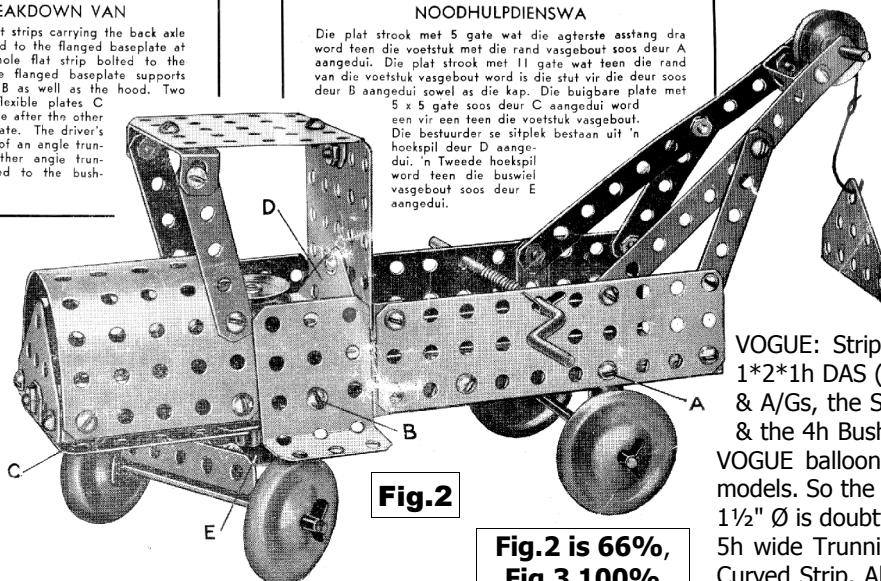

Fig.2
SKAAL to the BREAKDOWN VAN in Fig.2. For each a good-sized halftone & some constructional notes, but no Parts List. C3 shows an untitled shoulder wing, cabin Monoplane which could be built with Set 3, & Fig.4, from C4, illustrations of most of the parts.
**Fig.2 is 66%,